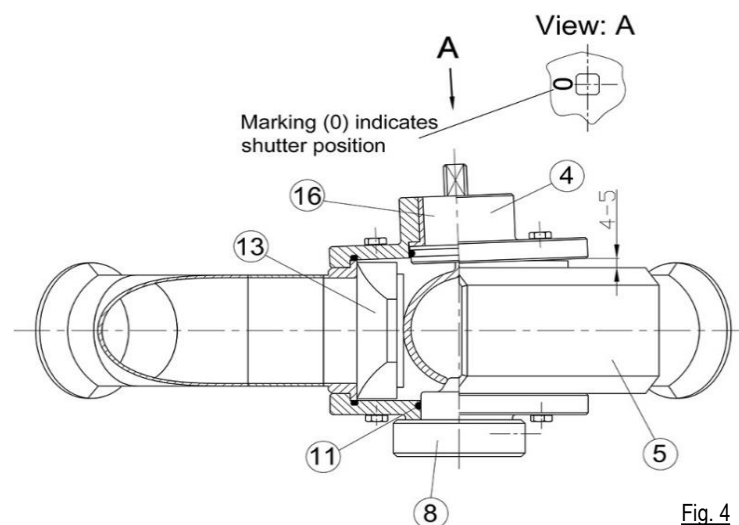

Fig. 4
2. Insert bearing bushing (15) into bearing cap (4).
3. Insert O-rings (11), (12) and (14).
4. Fix valve bottom cap (6) on the valve body (5) and tight the fixing screws (3).
5. Assemble pivoted axle with arc (16) and bearing cap (4). Pay attention to the marking (0) on the square pin of the pivoted axle (16) → indicates the shutter position (13) (see Figure 4).
6. Insert shutter (13) into valve casing (5).
7. Fit the pivoted axle with the arc (16) together with bearing cap (4) to the valve casing (5) as follows:
- a) The pivoted axle with arc (16) is designed that it exerts a defined pressure on the shutter (13) during assembly. On account of the preload characteristics, the bearing cap (4) declines approx. 4-5mm off the valve casing (5) on the opposite side of the shutter (see Figure 4).
- c) Fasten the handle (1) in the desired position.